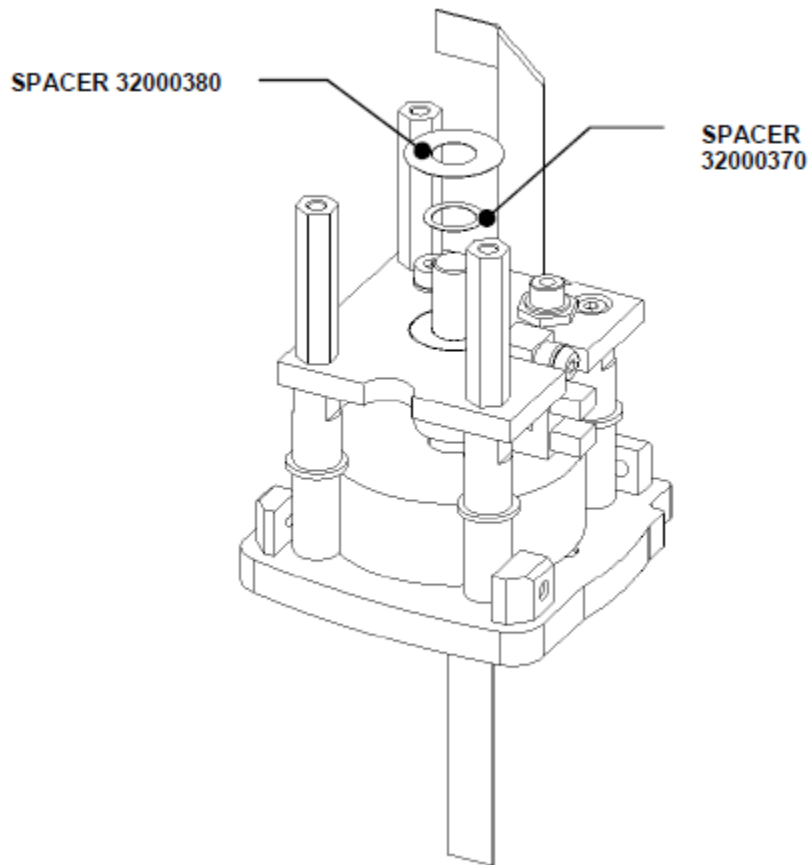

Figure R-11: Bearing Shaft Spacers
3. Remove the spacers on the Rotator Bearing Shaft (Figure R-11).
2. Place two spacers on the Rotator Bearing shaft (Figure R-11).